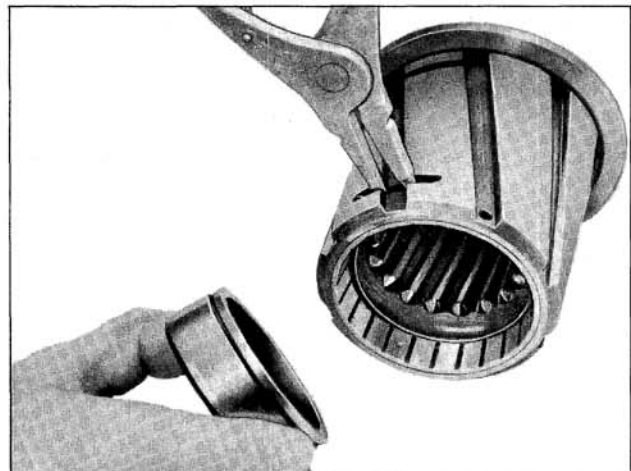

Fig. 7-15 Removing Synchronizer Ring
3. Using Tool J-0932, expand the retainer into the counterbore in the clutch sleeve. This raises the retainer from the groove in the ring so ring may be easily slipped out. (Fig. 7-15)